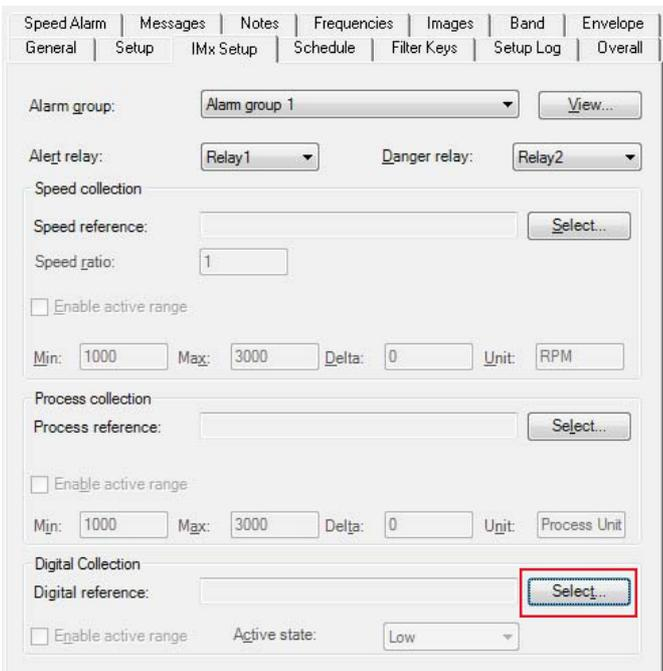

Fig. 10. Click Select from the Digital Collection section.
- In the **IMx Setup** tab (→ fig. 10), click **Select** in the digital collection section.